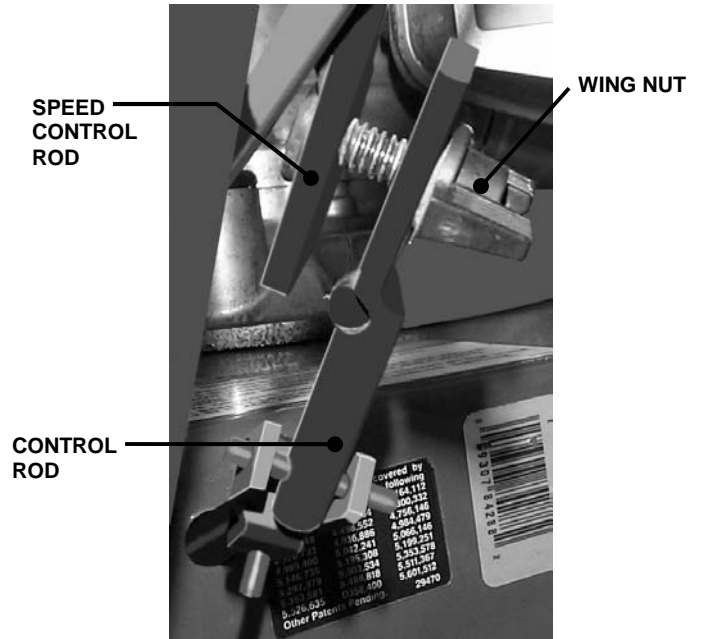

FIGURE 2
- STEP 5:** Attach speed control rod to control rod at rear of mower. Tighten securely using wing nut provided in kit. See Figure 2.